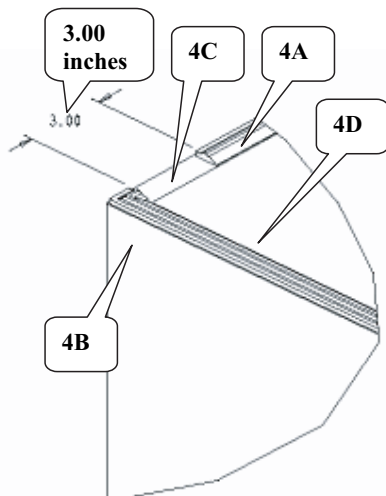

FIGURE 3
4. Part of the rubberized bin gasket (4A) will need to be trimmed away [3.00 inches] from the back left side corner of the ice beverage dispenser (4B) as shown (See Figure 3).
5. Use a 3.00 inch piece of the black adhesive foam gasket included kit to seal for sanitation reasons over the previously trimmed 3.00 inch area (4C). Remove protective covering from black adhesive foam gasket before adhering to surfaces of ice beverage dispenser (See Figure 3).
6. Clean the left inside corner of ice storage bin (4D) from top to bottom and 6.00 inches to the left and right with isopropyl alcohol or cleaning solution (See Figure 3).